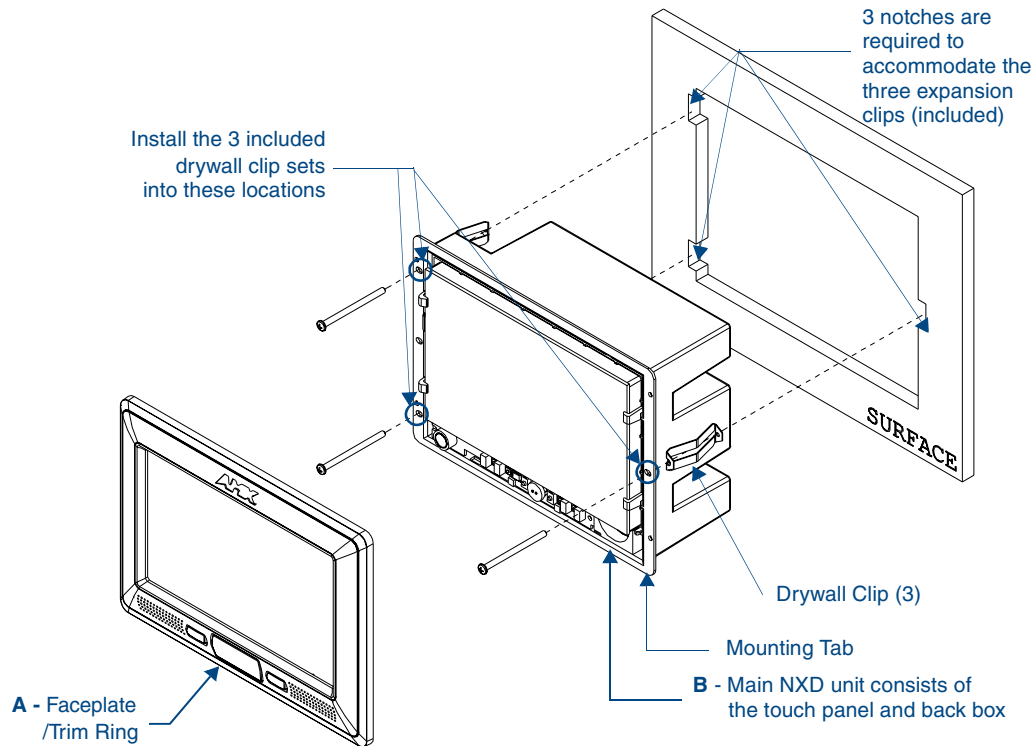

FIG. 14 Wall Mount panel (NXD) installation configuration for drywall surfaces
3. Remove the Faceplate/bezel (**A** in FIG. 14) from the main NXD unit (**B** in FIG. 14) by gripping the faceplate and pulling with gentle outward force.
8. Install the three sets of drywall screws and expansion clips into the three oval notch locations along both sides of the main unit (**B** in FIG. 14).
11. Place the Faceplate/Trim Ring assembly (**A** in FIG. 14) back onto the main NXD unit (**B** in FIG. 14). *Make sure to align the Microphone, Light, and PIR Motion sensor locations to their respective openings on the front faceplate/bezel.*